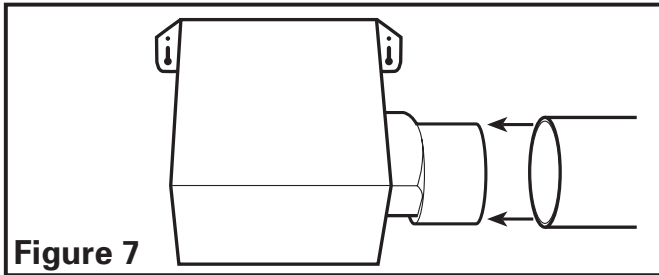

Figure 7
1. Connect the ducting to the fan's duct collar (Figure 7). Secure in place using tape or screw clamp. Always duct the fan to the outside through a wall or roof cap.